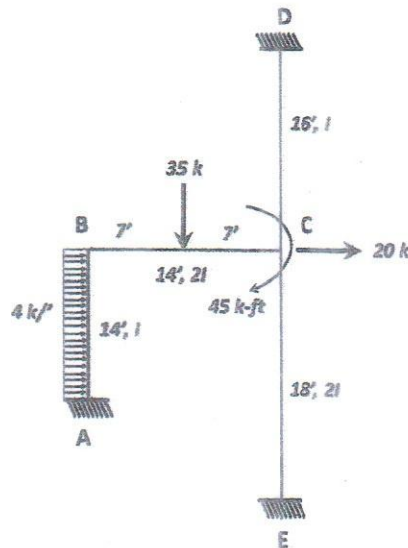

Figure: 2
2. Evaluate the DOKIs due to the loading and support conditions given in Figure 2. (37.5)